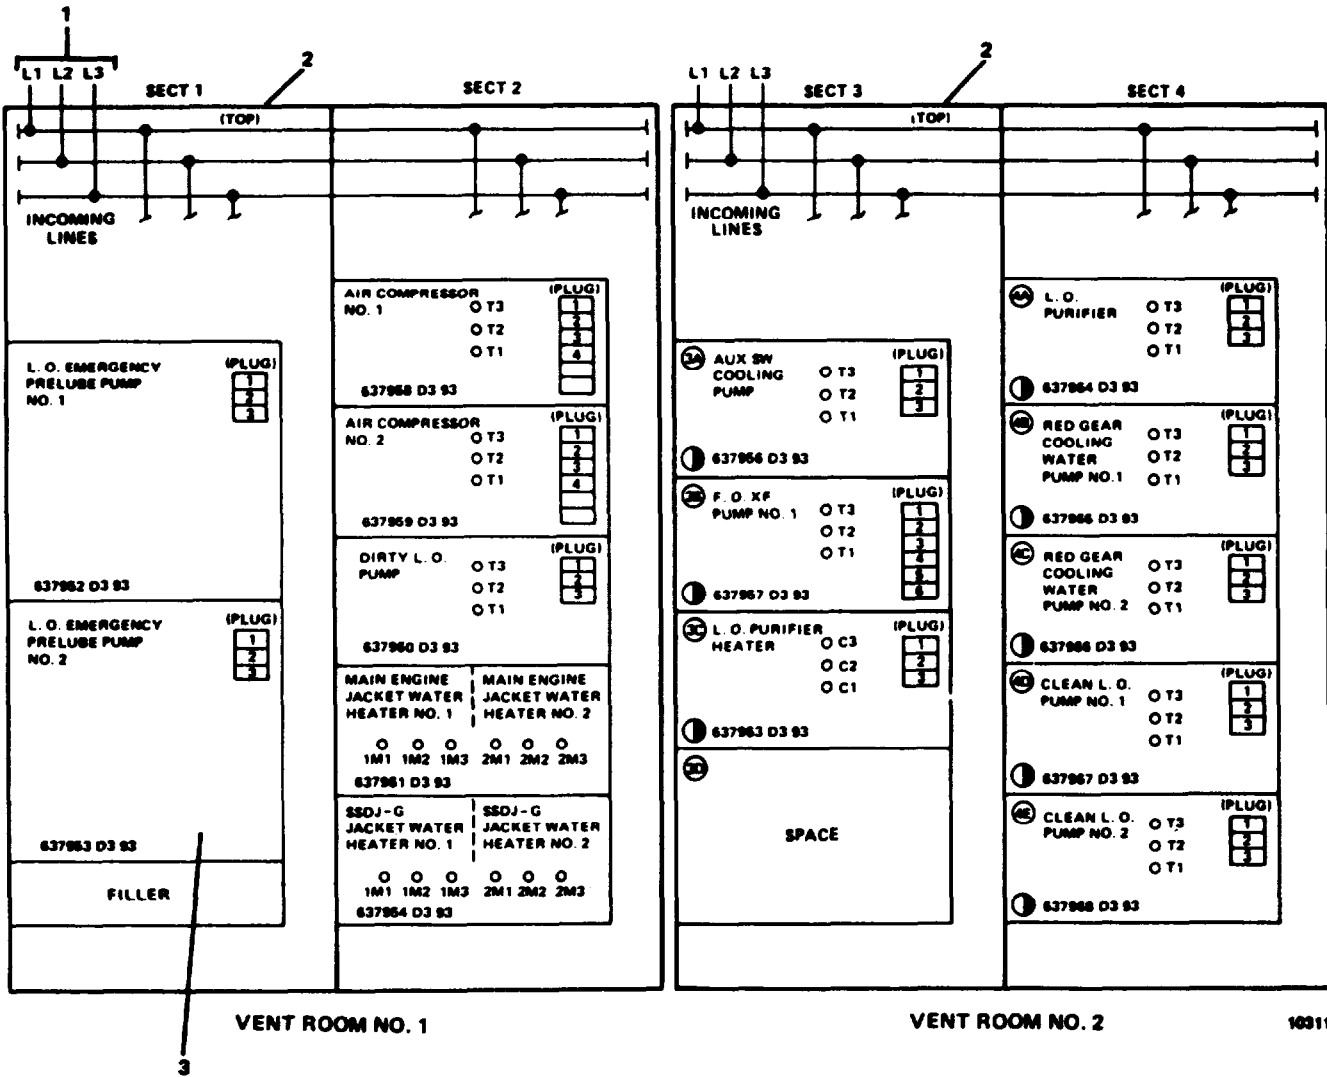

FIGURE 2-196. MCC Auxiliary Machinery Vent No. 1 and No. 2
- a. Remove associated hardware from top cover panel (2, FIGURE 2-196) and remove panel.
- b. Tag and disconnect all incoming wiring (1) to controller bus bars and terminals.
- c. Remove associated hardware anchoring motor control center (3) to metal deck mounting pads.